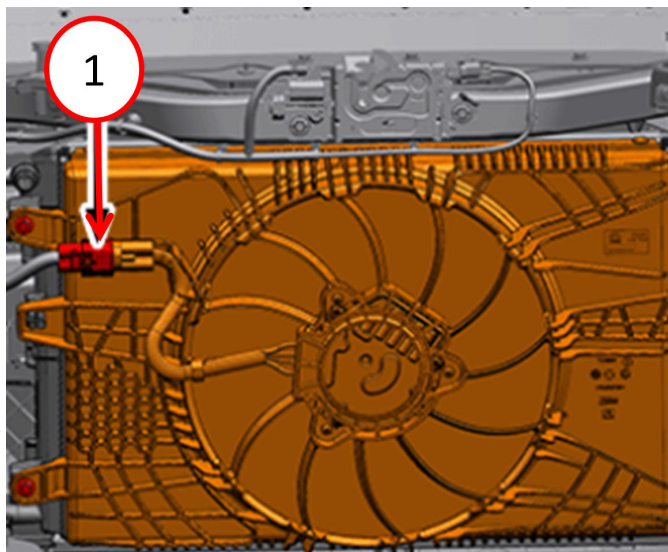

Fig. 1
4. Disconnect the cooling fan wire harness connector Fig. 1.
21. Connect the cooling fan wire harness connector Fig. 1.